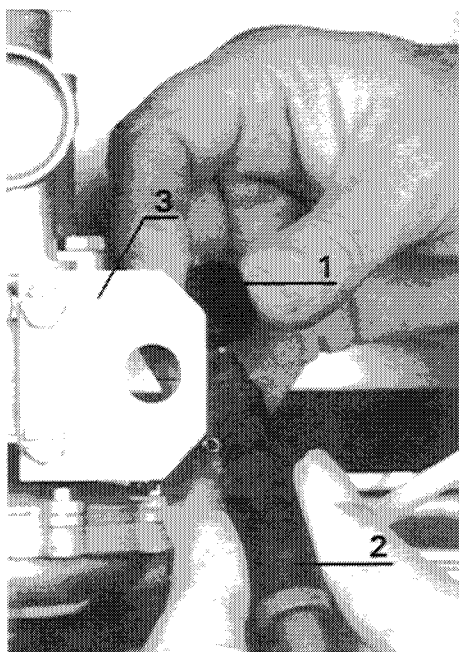

Fig. 25
- b) Unscrew plastic retaining nut (1, fig. 25) from rear of piezo body.
- c) Remove piezo (2, fig. 25) cartridge from mounting bracket (3, fig. 25).